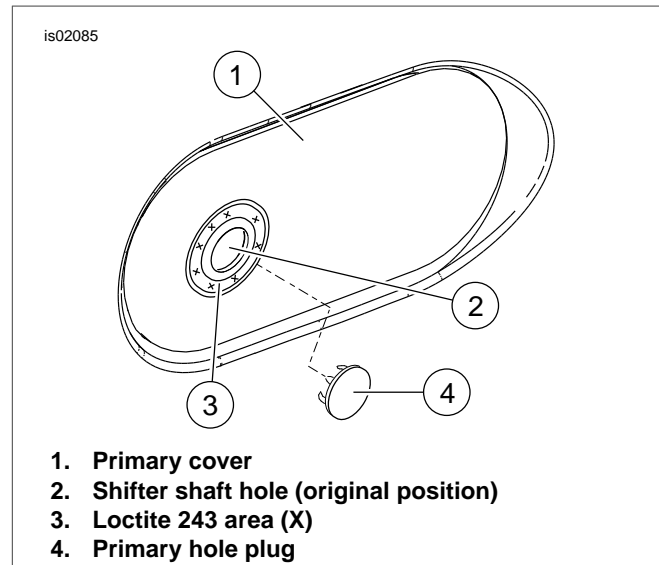

Figure 3. Outer Cover Plug Installation
12. See Figure 3. Clean the area around primary cover (2) hole, removing all dirt, oil and grease. Apply Loctite 243 (Harley-Davidson Part Number 99642-97) around opening (3). Insert primary hole plug (4) into opening. Remove any excess adhesive from surface. Allow Loctite to cure for 24 hours before operating vehicle.